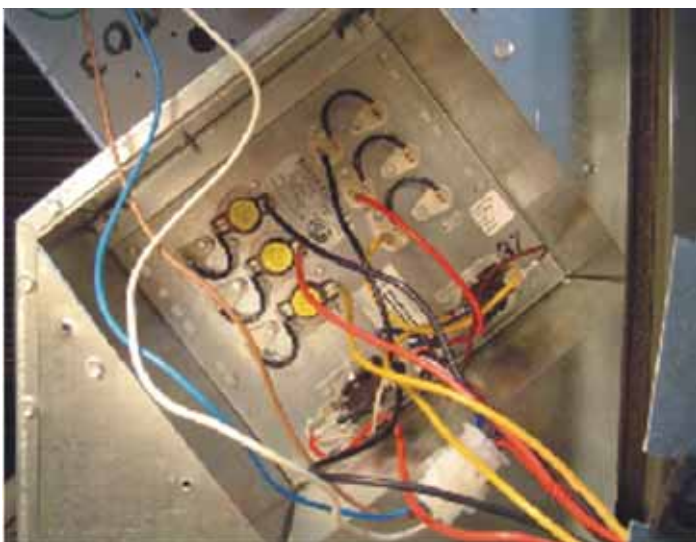

FIGURE 6
- Install heater element(s) with the four (4) pointed screws included in the unit literature bag. Note the air flow direction label located on the heater element base shown in Figure 6. Orient the heating element base to match airflow direction on package unit blower assembly.